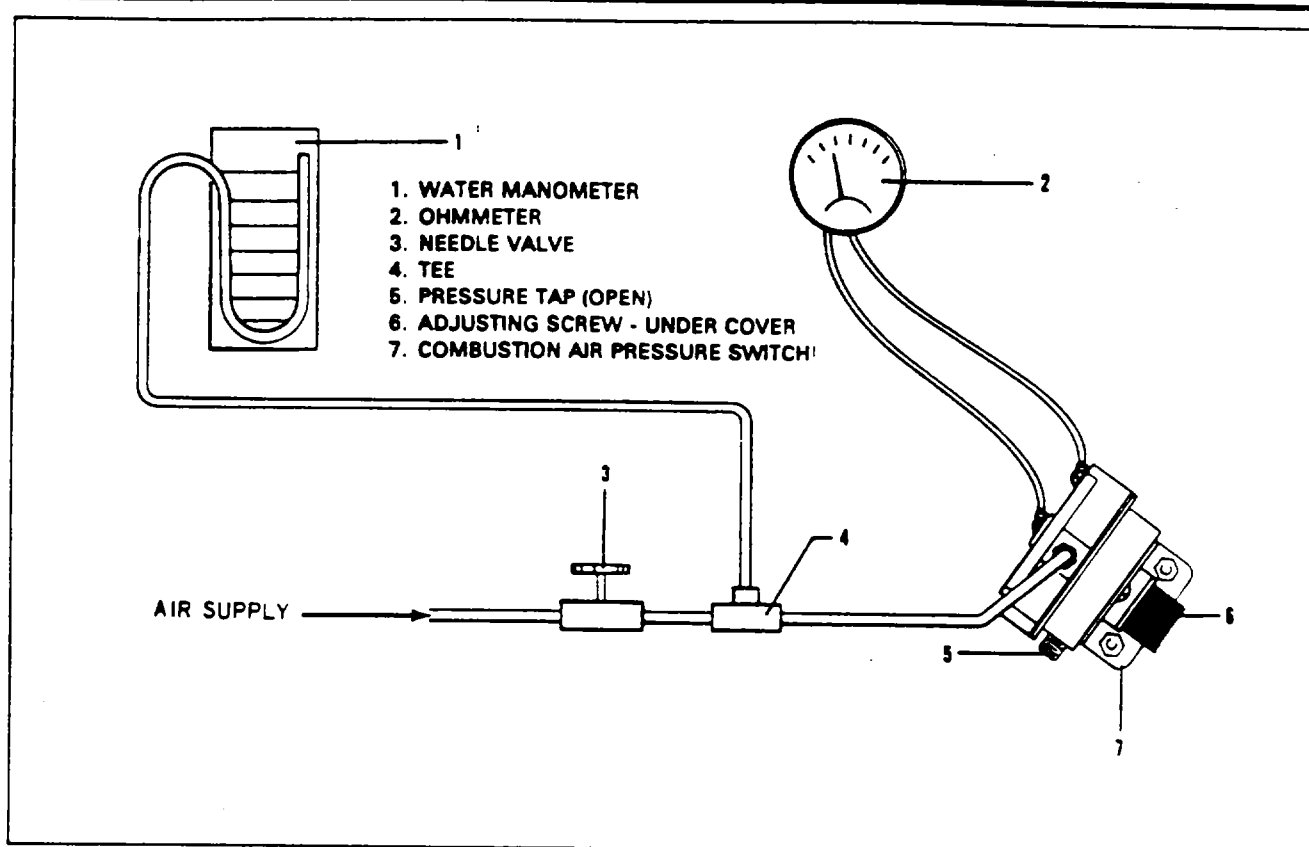

Figure 21-5. Test Set-up - Combustion Air Pressure Switch
4. The combustion air pressure switch installed on the system must respond to delicate pressure changes and should always be checked and/ or replaced at overhaul. (Refer to Step 3 testing and Figure 21-5.)
3. Test the combustion air pressure switch as follows. (Refer to Figure 21-5.)